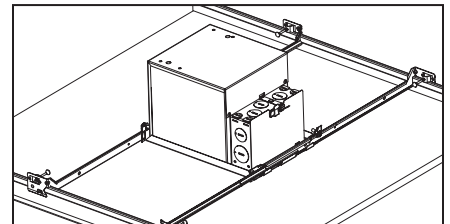
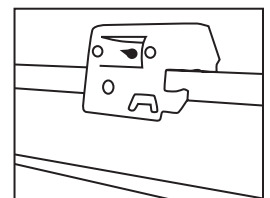

Figure 6
Figure 7
Step 3. Place fixture into position and snap bar hanger foot with integral T-bar notch onto T-bars (Fig. 6). Additional holes are provided for securing with wire or screws if desired (Fig. 7).